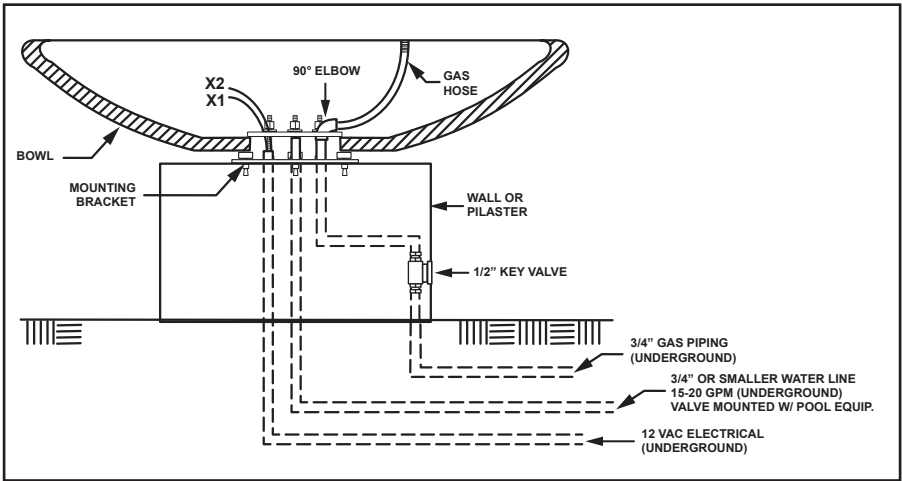

Figure 6. Mounting
1. Attach the mounting bracket to the surface/floor. See Figure 6.
Note: The gas, electrical, and water connection at each bowl must be located at the center of each bowl. The connections must be installed as shown in Figure 6.
9. Install the mounting bracket as shown in Figure 6.
- b. Install the clamp ring onto the three (3) securing bolts and fasten to the bottom of the bowl using a nut and washer on each securing bolt.
11. Install 90° pipe elbow and gas hose at the gas connection as shown in Figure 6.
Important: The mounting bracket must be installed for proper cooling of the burner assembly. Warranty may be voided if the mounting bracket is not installed. Do not kink or make sharp radius on the metal gas hose. Do not come straight up with the gas hose. As shown in Figure 6, a 90° gas pipe elbow must be installed on the gas line for proper installation of the gas hose. The product warranty may be voided if it is not installed with an elbow as shown in Figure 6.
1. The height of the flame can be adjusted at each burner by opening or closing the $\frac{1}{2}$ " gas valve or keyed valve located on each column as shown in Figure 6.